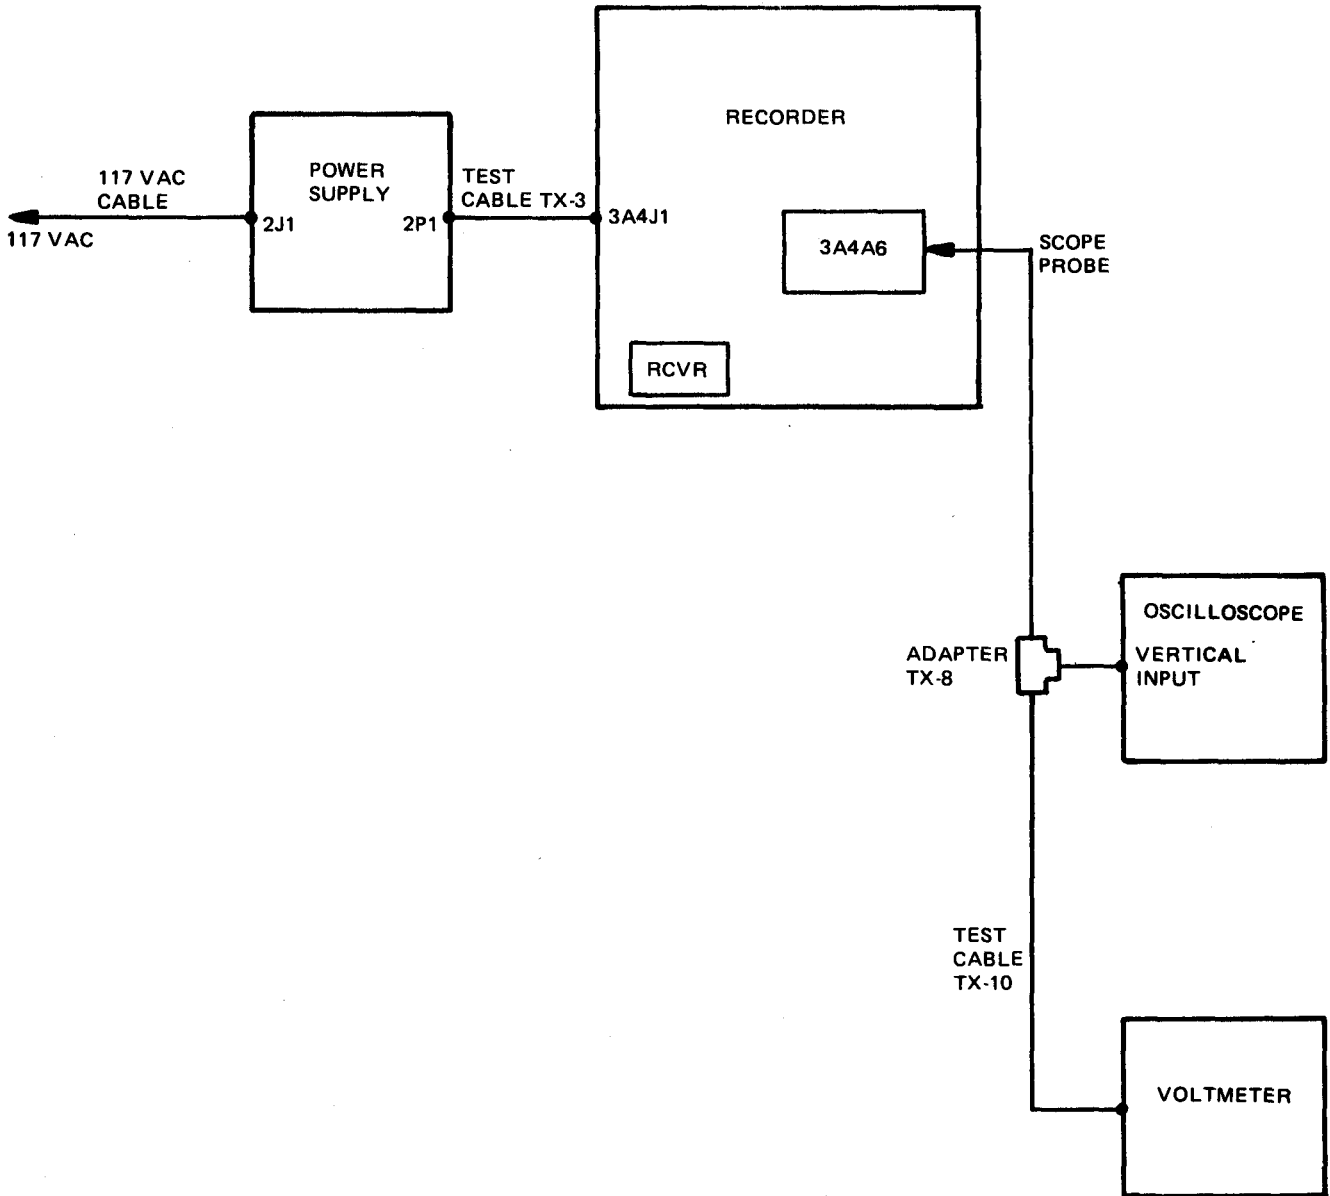

Figure 3-15. Bias Oscillator Circuit, Equipment Setup
- (1) Remove recorder housing, refer to paragraph 3-25.
- (2) Connect equipment as shown in figure 3-15.